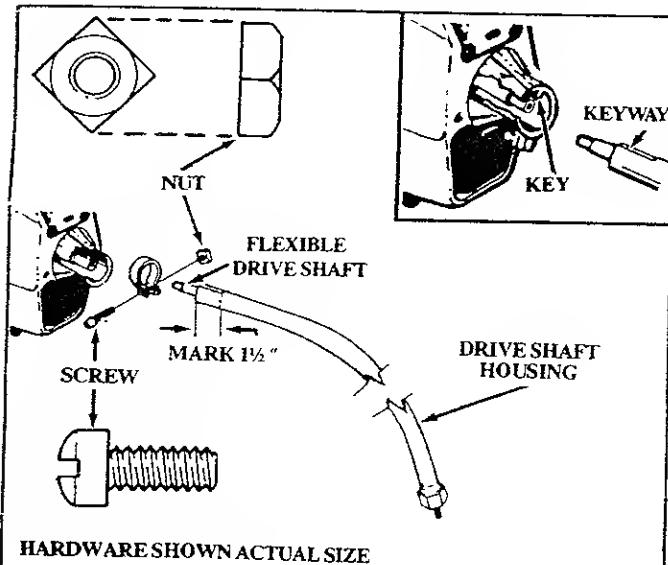

Figure 1
### 1. DRIVE SHAFT HOUSING — Figure 1
- b. Mark a line 1-1/2 inches from the straight end of the Drive Shaft Housing. Figure 1.
- c. Place the Clamp from the loose parts bag on the Engine Shroud as shown in Figure 1.
- f. Align the keyway in the Drive Shaft Housing with the key inside the Engine Shroud Opening. Figure 1.
- NOTE:** The Drive Shaft Housing must be positioned as shown in Figures 1 and 5.